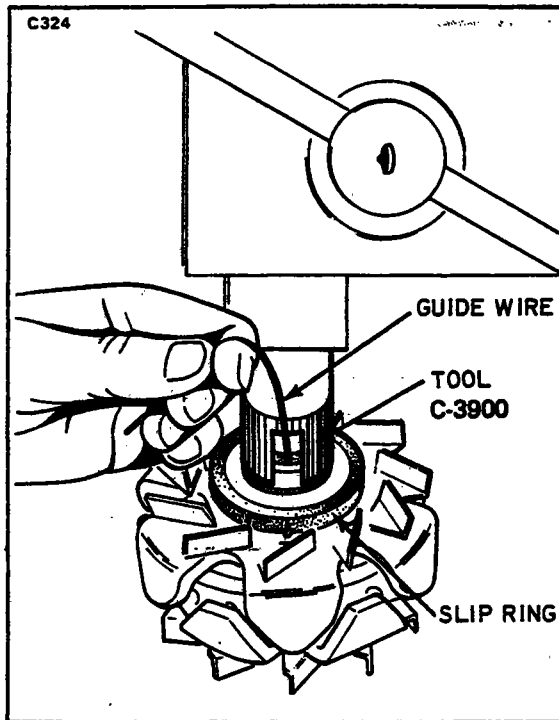

Figure 11-34. Installing Slip Ring
5. Place installing tool C-3900 over the rotor shaft with the guide wire protruding from the slot in the tool. (Refer to Figure 11-34.)